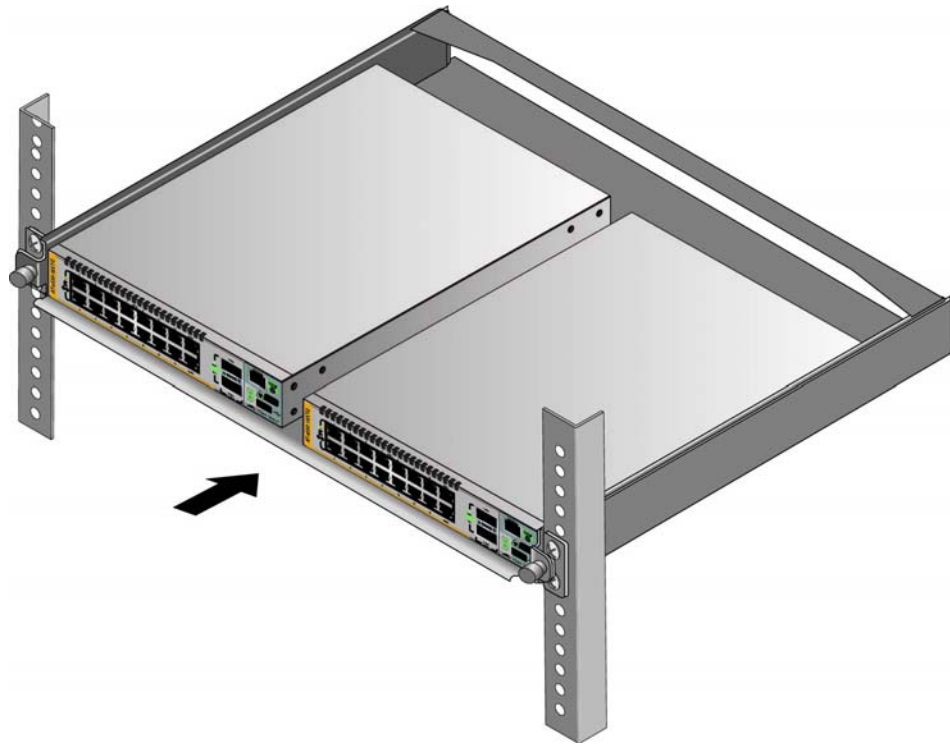

Figure 34. Sliding in the Bracket Tray
10. Slide in the bracket tray. Refer to Figure 34.